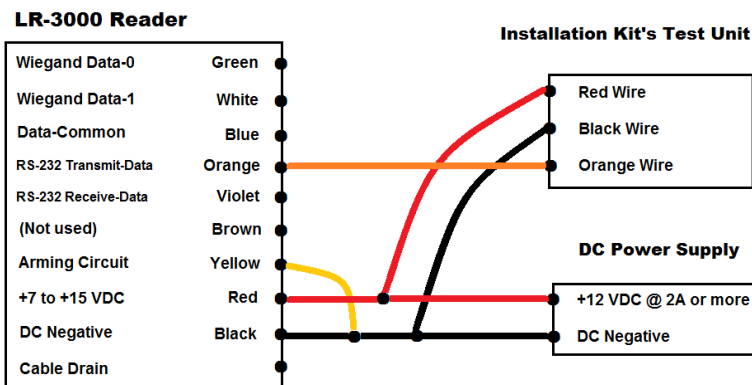

Figure 1. Connections for Pre-Installation Testing
4. One-person testing: Use the LR-Sounder from the LR-TEK Test/Demo Kit. The Sounder’s beeper and LED let you detect reads at a greater distance. See Figure 1 (below) for this hook-up. Clip the **black**, **orange** and **red** leads to the LR-3000 reader.